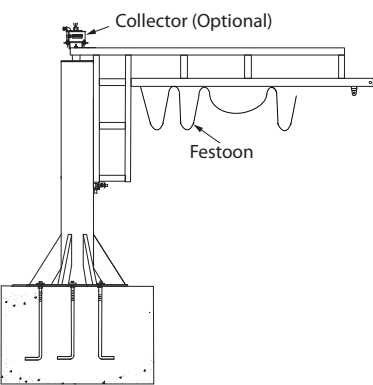

Figure 5A
**Note:** This procedure may differ depending upon the festoon option you choose (See Figures 5A, 5B, and 5C). Festoon cables and trolleys are optional.
2. Flat cable festoon (Figure 5A)